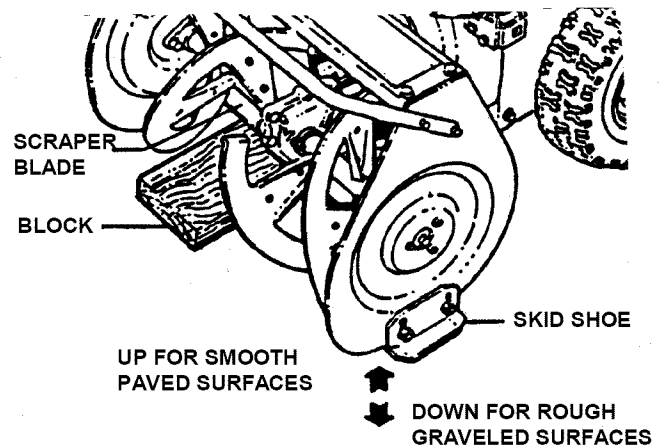

FIGURE 4.10
2. Loosen bolts on both skid shoes. Move shoes down to raise auger housing or move skid shoes up to lower auger housing. See Figure 4.10.